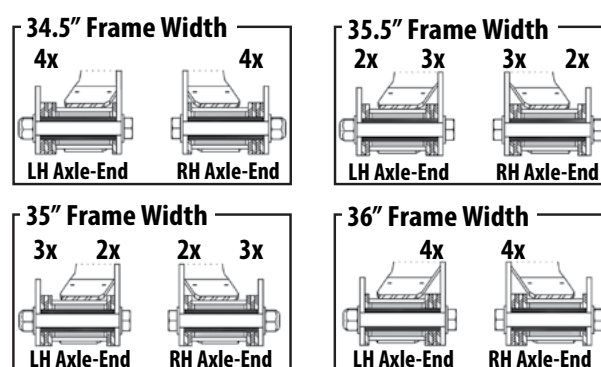

Figure 2.
- Count the number of wear washers on each side of the bushing on both the left-hand and right-hand Axle-End Torque Rod (Figure 2). The number of wear washers installed varies according to the suspension frame-width set by the hanger/crosschannel assembly.